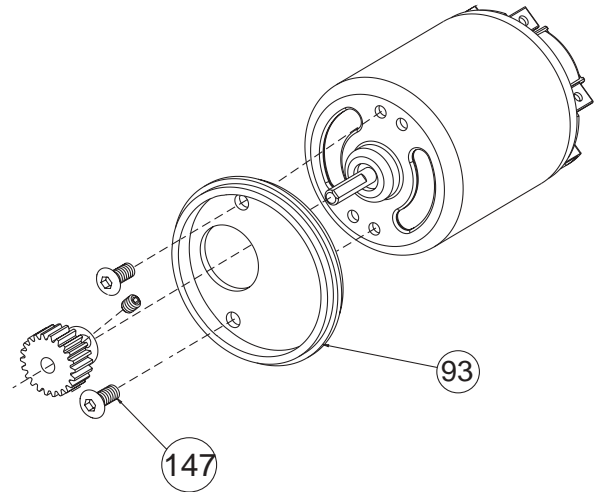

Figure 71
❑ 1. Place the motor mount (93) against the motor (*not included*) so that the shaft on the motor is centered in the large hole in the motor plate and the flat surface of the motor plate rests against the motor. Align the holes in the motor mount with the holes in the motor as indicated in Figure 71.